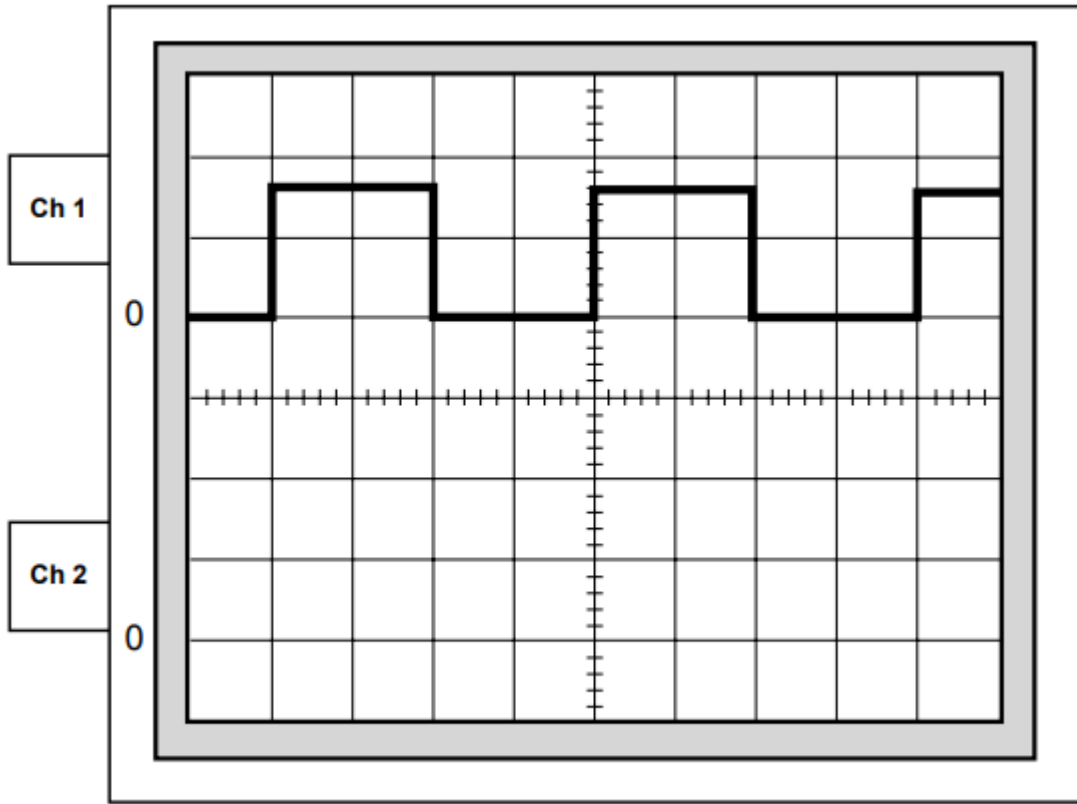

Figure 20
f) The Ch 2 probe is connected to the collector of Q2 and ground. Draw the expected waveform on the lower half of the oscilloscope screen in Figure 20 assuming the settings are the same as Ch 1.